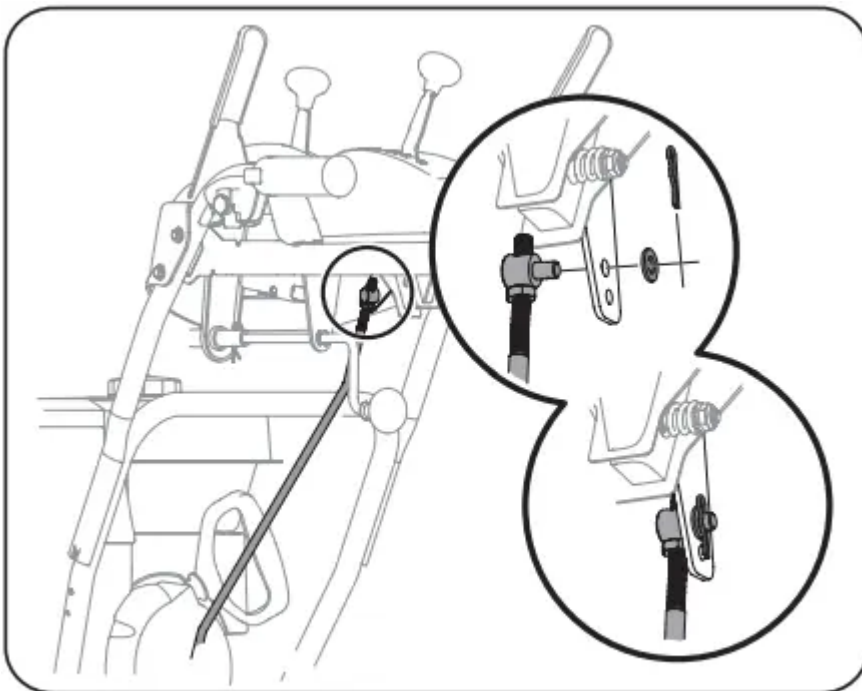

Figure 31
8. Remove cotter pin and washer from ferrule on end of shift rod. See "Figure 31" inset.
10. Insert ferrule into top hole of shift lever and secure with cotter pin (a) and washer (b) removed in Step 8. See Figure 31. Ferrule may need to be adjusted up or down.